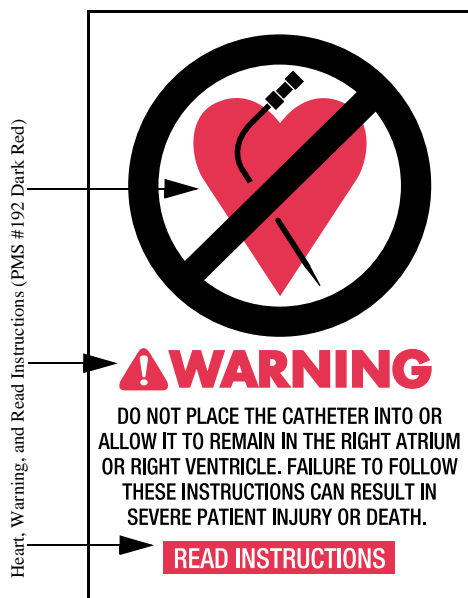

Fig. 1
**Warning:** Do not place the catheter into or allow it to remain in the right atrium or right ventricle (refer to Fig. 1).